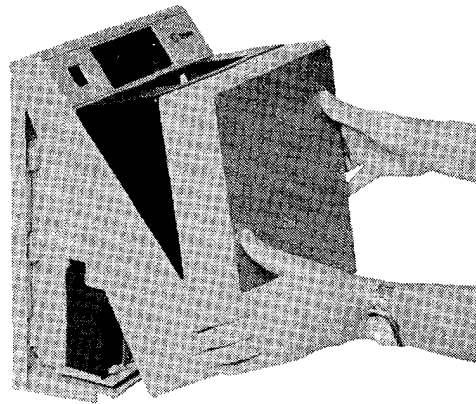

Figure 1
1. Use the case key (found in the shipping packet) to unlock the recorder. Then remove its cover as shown (Figure 1).